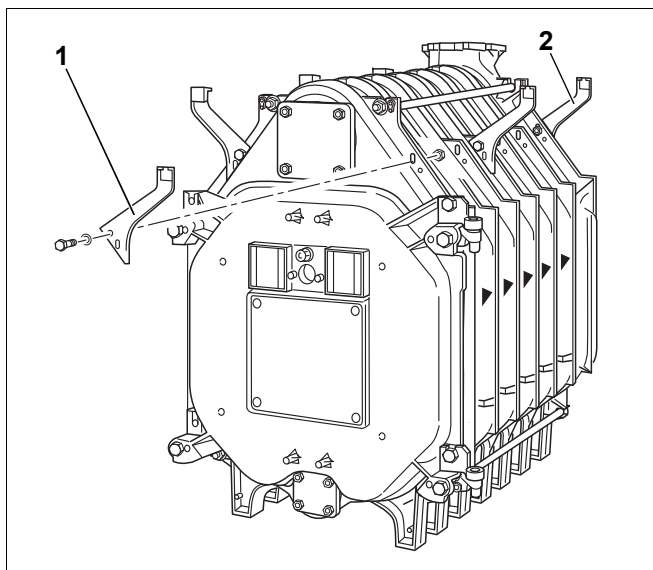

Fig. 36 Install the mounting brackets
- Secure the mounting brackets with screws to the rear section (Fig. 36, [2]) from the rear through the fins.
- Secure the mounting brackets on the front and centre sections (Fig. 36, [1]) exclusively from the front.